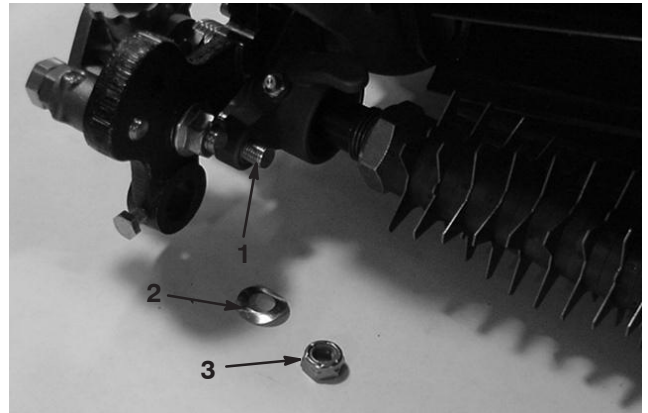

Figure 31
4. Remove the locknut and spring washer securing the height-of-cut arm assembly rod end to the groomer drive assembly (Fig. 31).